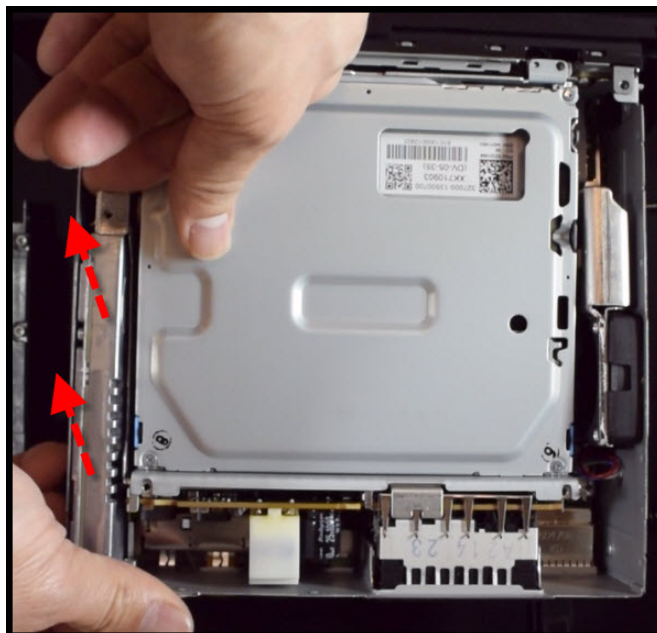

Figure 13. Lift up on both ends of the telephone module as indicated by the red arrows.
11. Carefully lift up the telephone module, using both ends as points of contact when pulling up (Figure 13). The module is held in place with a computer socket-type attachment and will release when enough force is used.